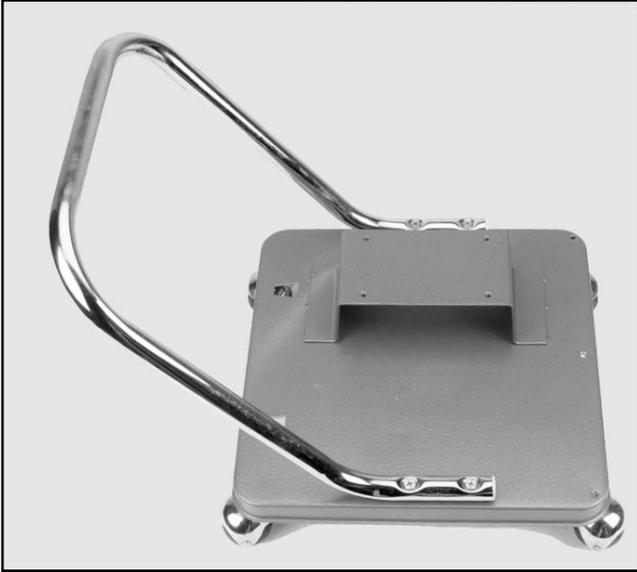

Figure 3. Handle bar attached to the base plate.
Align the handle bar mounting holes on the bar and the base. Tighten with the four (4) flat head screws provided. **See Figure 3.**